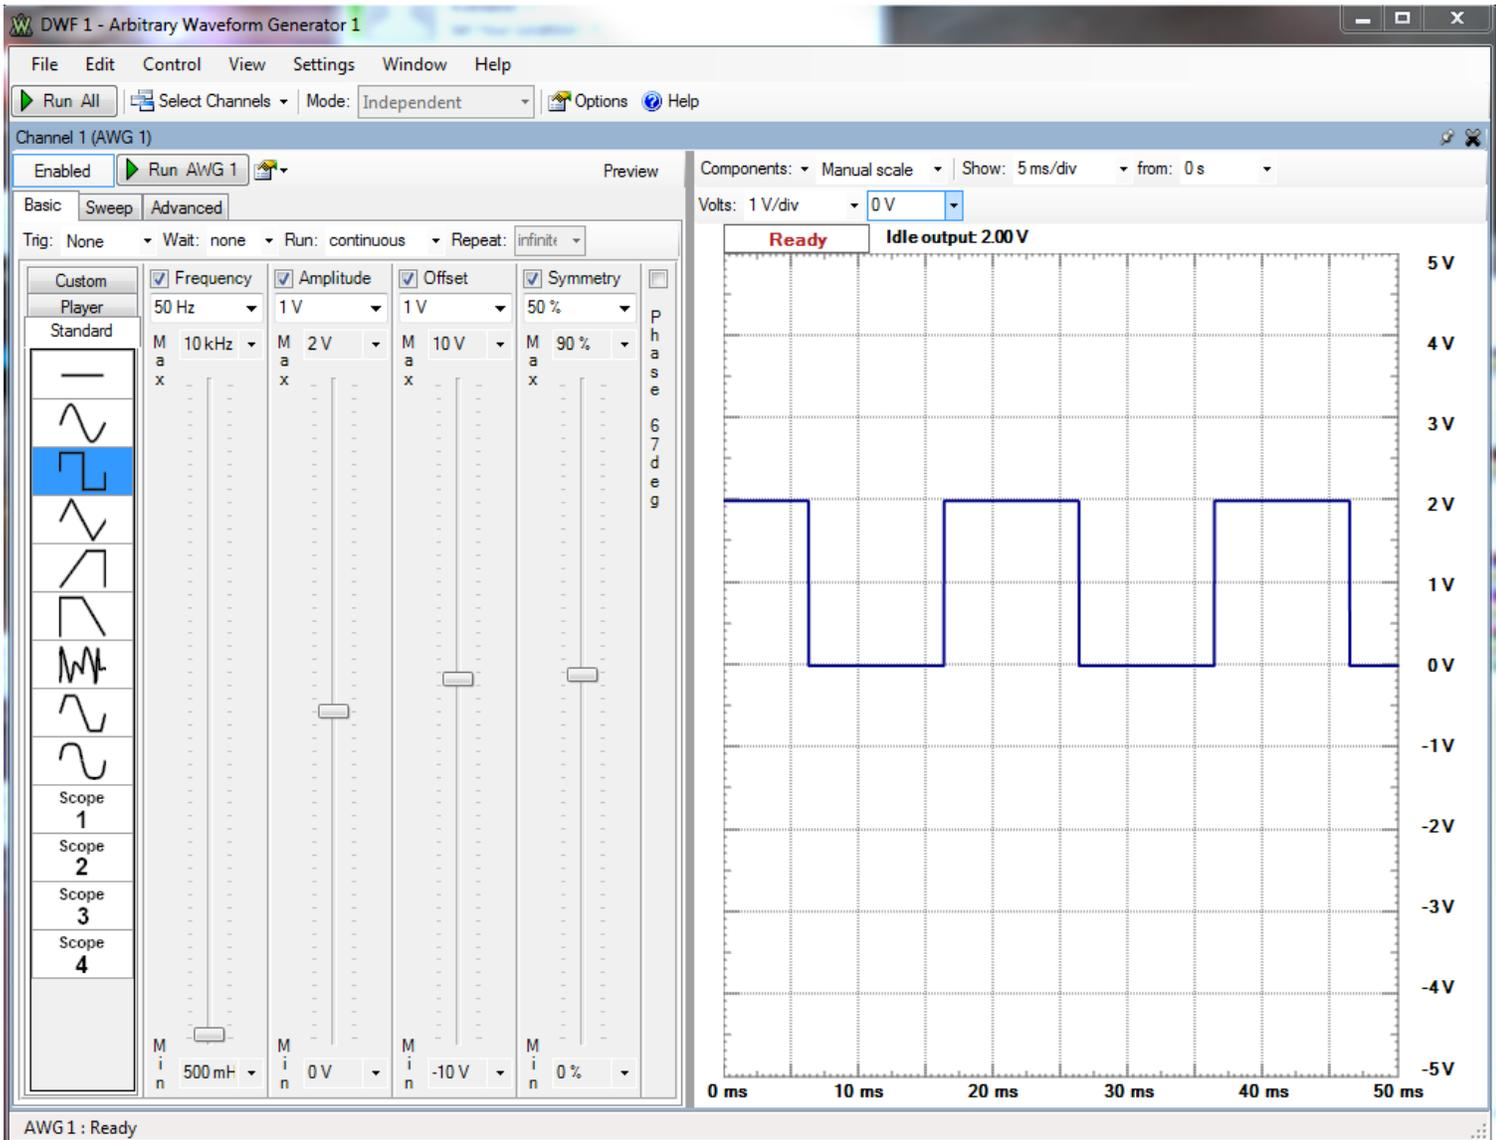

Figure 3. Arbitrary Waveform Generator 1.
4) Start the **Function Generator (WaveGen)**. Set channel 1 to a 50 Hz square wave, with a 1 volt DC offset and peak to peak value of 2.0 volts (the amplitude of the waveform will be 1 Volt). The symmetry should be set to 50%. If your range of frequencies or volts is not in the menu, select the upper or lower value that you want to change, Set channel 2 to a zero output (we will not be using it). The scope channel should look something like that shown in Figure 3 once you have started the waveform generator. (Note that I have used the Settings-> Options to set my waveform to blue.)